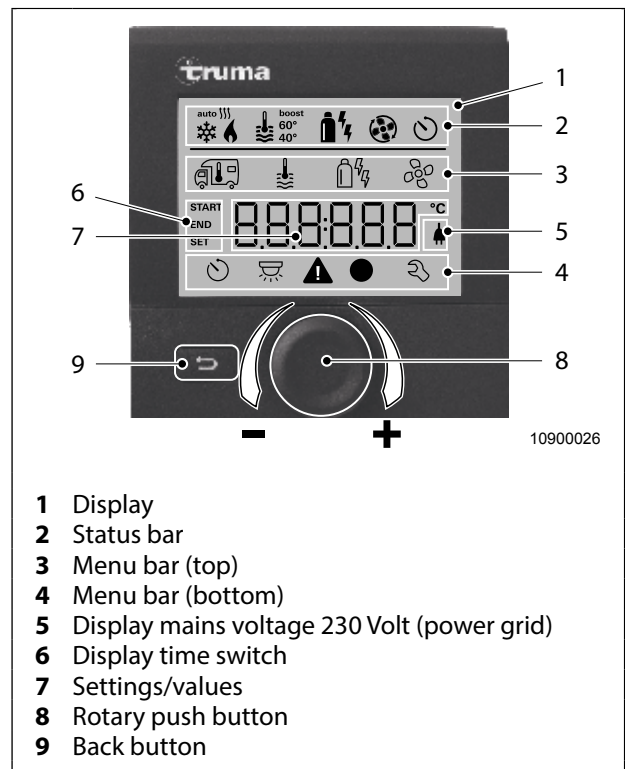

Fig. 60 Truma CP plus control element (optional accessory)
Rotary push button (Fig. 60, item 8) serves to select menus or to change the values to be set.
Back button (Fig. 60, item 9) serves to switch back to the previous menu or previous display.